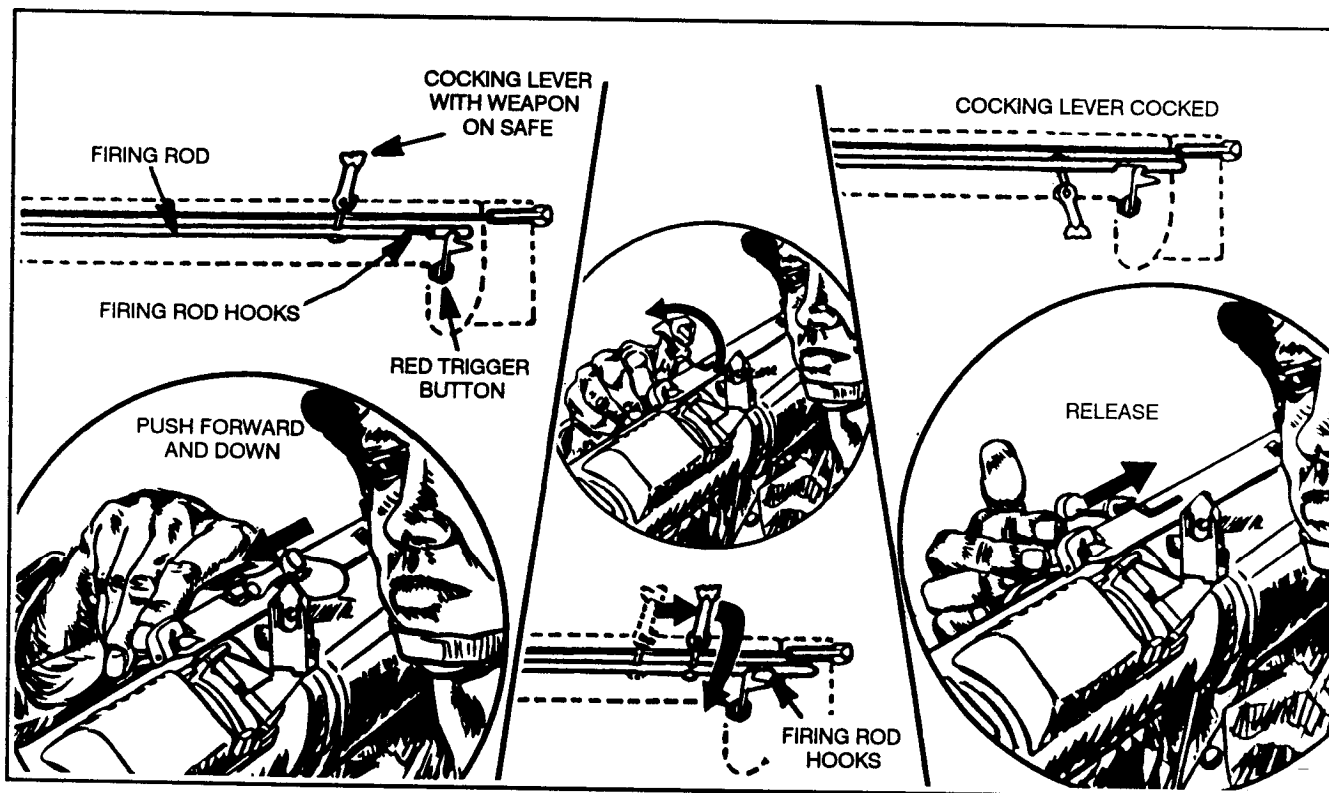

Figure 3-8. Cocking lever.
b. **Cocking Lever.** When this lever, which is attached to the firing rod (Figure 3-8), is in the SAFE position, the firing rod and the trigger cannot touch. To cock the AT4, push the lever forward and down with your right thumb. This causes the hooks on the front of the firing rod to catch and hold the red trigger button.